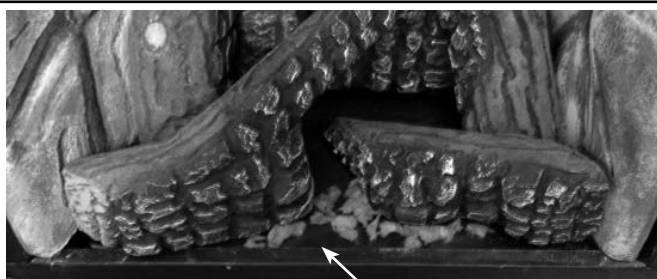

Figure 47 - Ember Placement DO NOT place ember material directly over the ember burner ports.
6. **Ember Placement** - Separate the Embers (rockwool) into pieces about the size of a quarter (see **Figure 41**). Keep the pieces fluffed up, not matted. Distribute these pieces over the surface of the burner, as shown in **Figure 47**. Do not use more than is necessary. **Ensure that the main burner ports remain uncovered by the ember material** (see **Figure 41**).